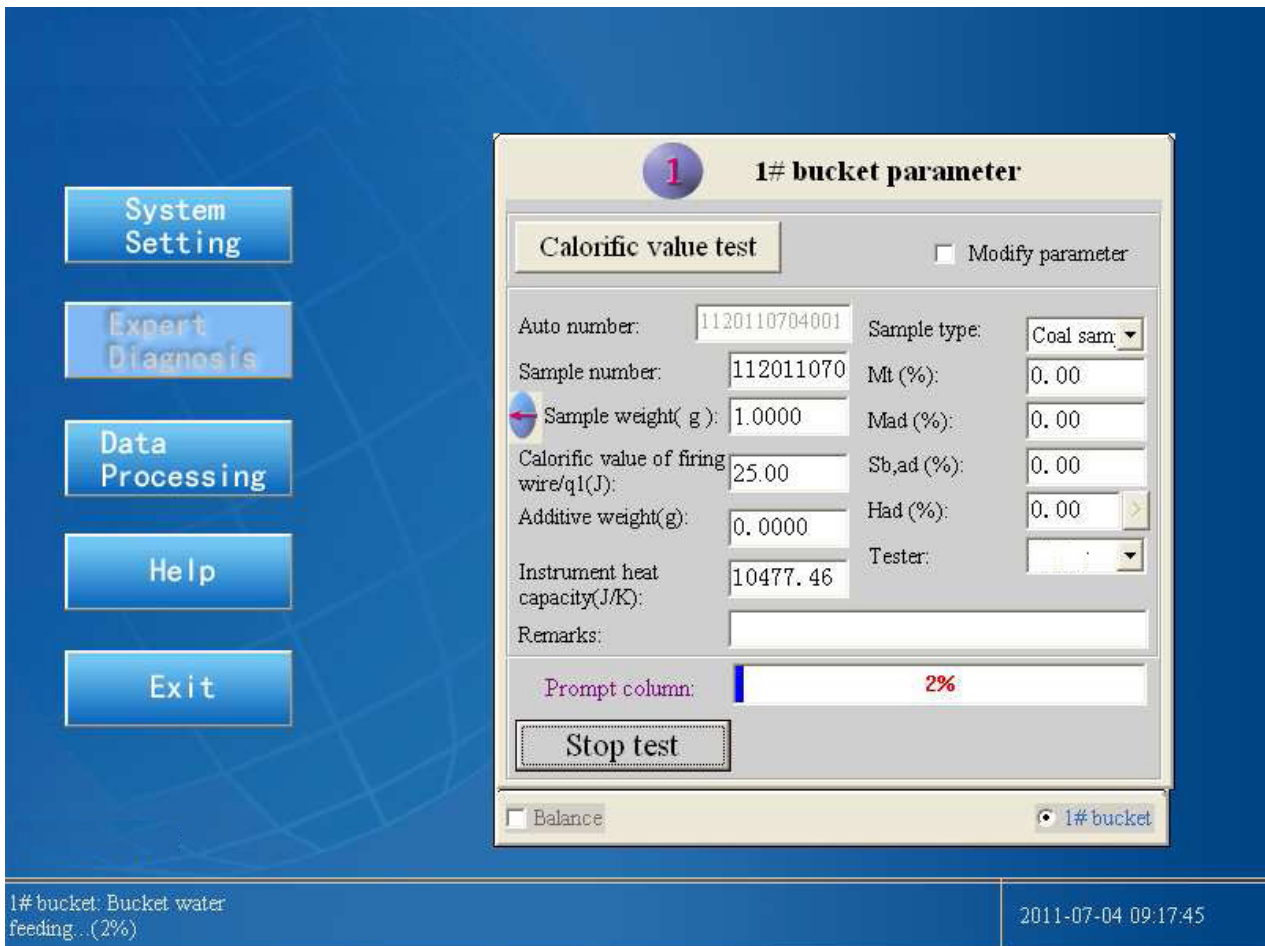

Fig.4-2
The working window of CALO-40 Calorimeter test-control system is shown as Fig. 4-2.
- a. Input sample weight, calorific value of firing wire and calorific value of additives (The default value is 0J) as Fig.4-2. **The content of inherent moisture and total sulfur air dry basis needs to be input when testing the gross calorific value of coal sample dry basis.** If your computer has been connected with the electronic balance and their communication is normal, the sample weight will be input automatically by the balance.
After all parameters of sample are input, the system begins to enter test status, it will automatically start stirring, firing, calculating and saving the test results. During the whole process, you will see the window shown as Fig.4-2.